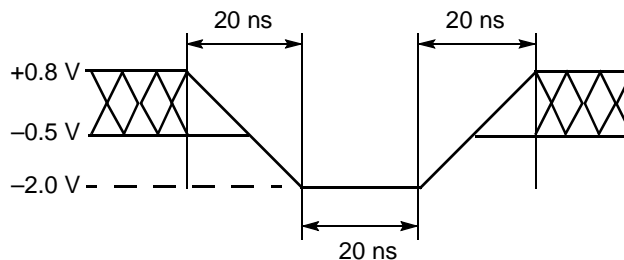
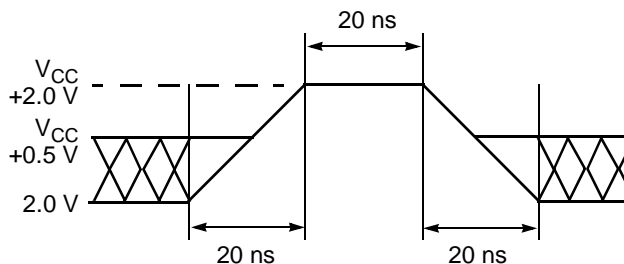

Figure 9. Maximum Negative Overshoot Waveform
Figure 10. Maximum Positive Overshoot Waveform
1. Minimum DC voltage on input and I/O pins is -0.5 V . During voltage transitions, input and I/O pins may overshoot V_{SS} to -2.0 V for periods of up to 20 ns. See Figure 9. Maximum DC voltage on output and I/Os is $V_{\text{CC}} + 0.5\text{ V}$. During voltage transitions input and I/Os may overshoot to $V_{\text{CC}} + 2.0\text{ V}$ for periods up to 20 ns. See Figure 10.
2. Minimum DC input voltage on pins A9, OE#, and RESET# is -0.5 V . During voltage transitions, A9, OE#, and RESET# may overshoot V_{SS} to -2.0 V for periods of up to 20 ns. See Figure 9. Maximum DC input voltage on pin A9 and OE# is $+13.0\text{ V}$ which may overshoot to 14.0 V for periods up to 20 ns.